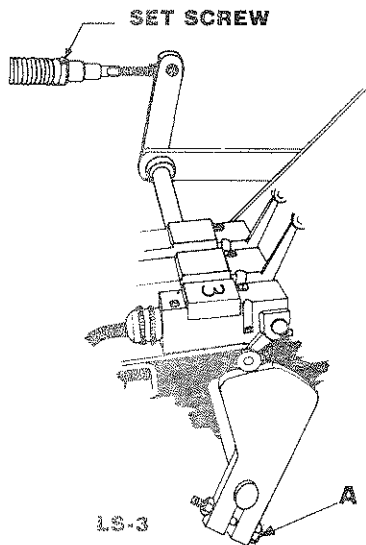

Fig. 41
1. Adjust the cam with the feed sensor paddles down, see Fig. 41.